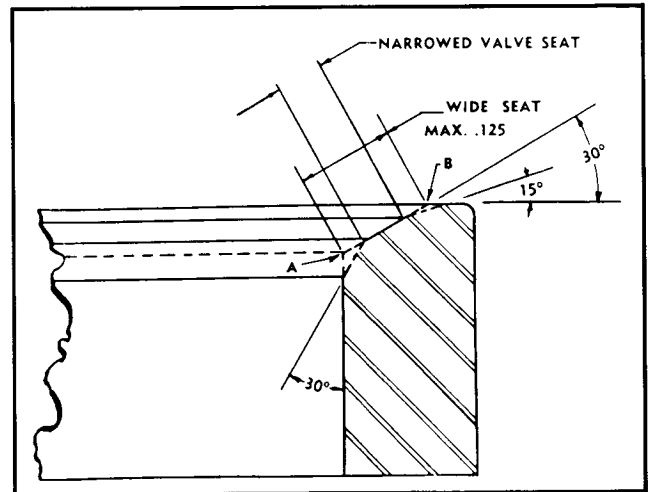

Fig. 3-15. Cross section valve seat insert
4. Check valve seat width which should be 1/16 to 1/8 inch. See Fig. 3-15.